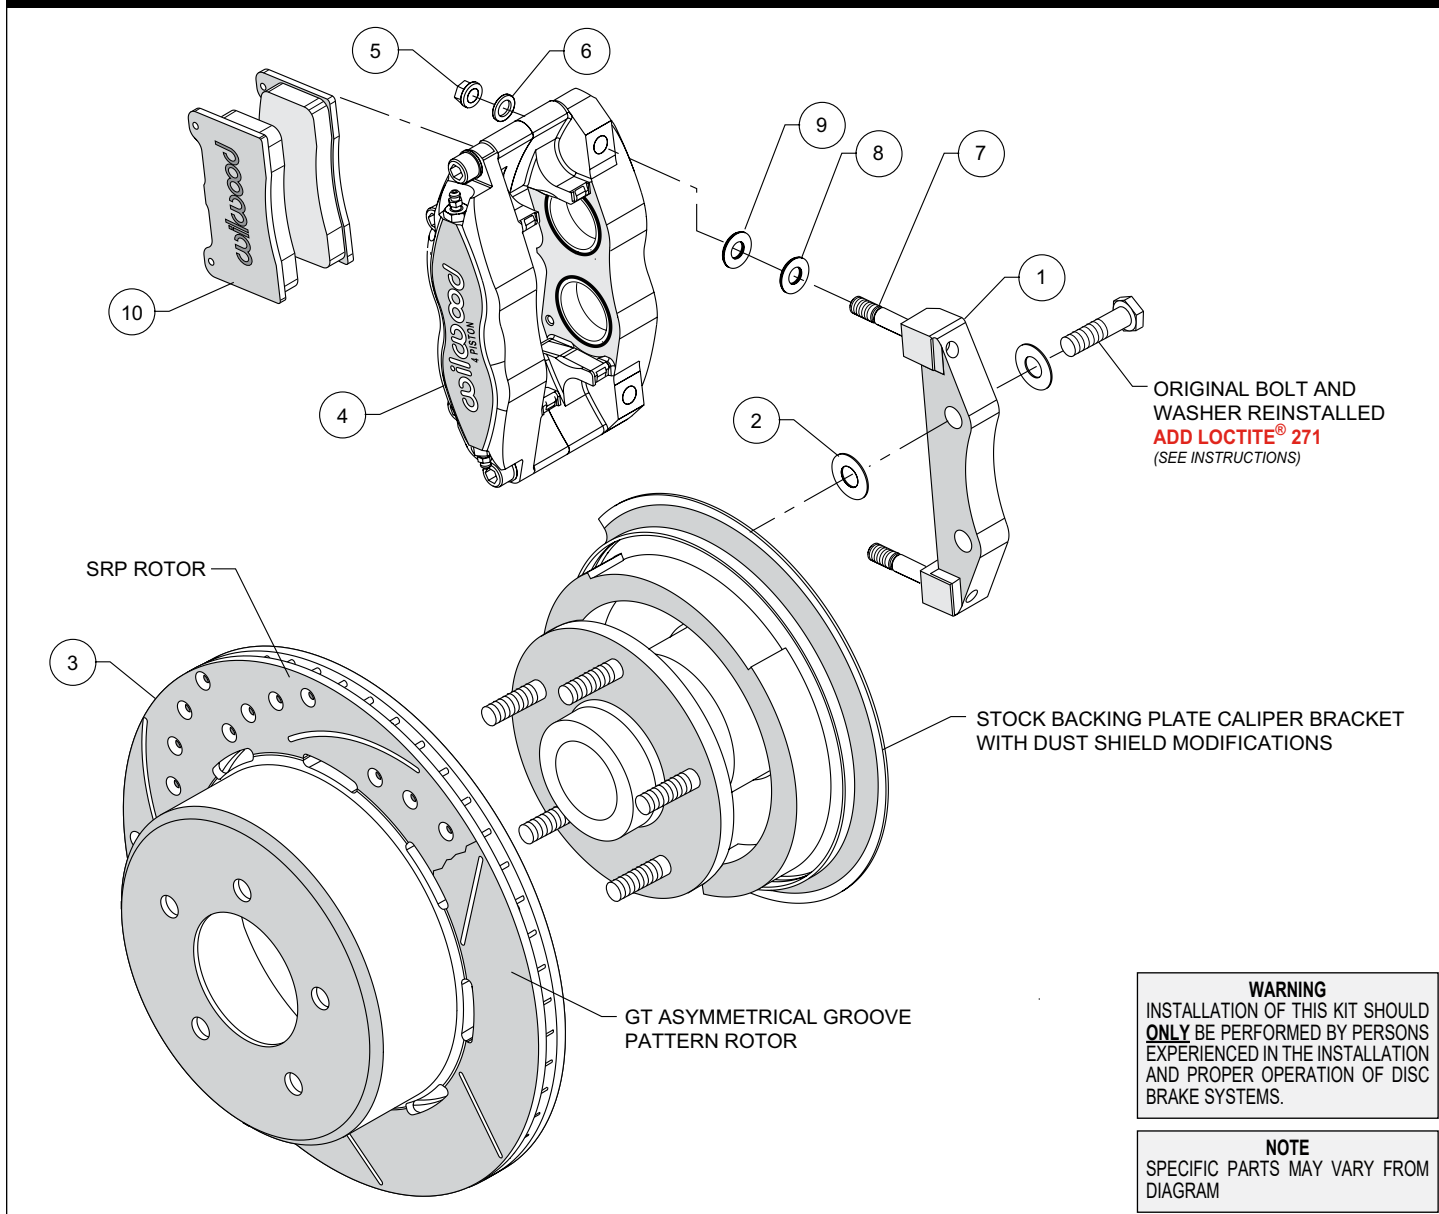

Figure 1. Typical Installation Configuration
- The caliper mounting bracket assembly (1) should be installed first with clean, dry threads on the mounting bolts. Install the bracket from the rear side of the spindle by sliding the original stock bolts through the washer and bracket(1). Place shim washer (2) between the bracket (1) and the spindle (see Figure 1). The bracket must tighten squarely against the side of the spindle body. Inspect for interference from casting irregularities, machining ridges, burrs, etc. Use one thin shim (2) between the bracket (1) and spindle during initial trial fitting.
- Slide the rotor (3) onto the axle. Check to be sure the hat seats squarely against the hub. Install a couple of lug nuts (finger tighten) to keep the rotor(3) in place while continuing with the installation.